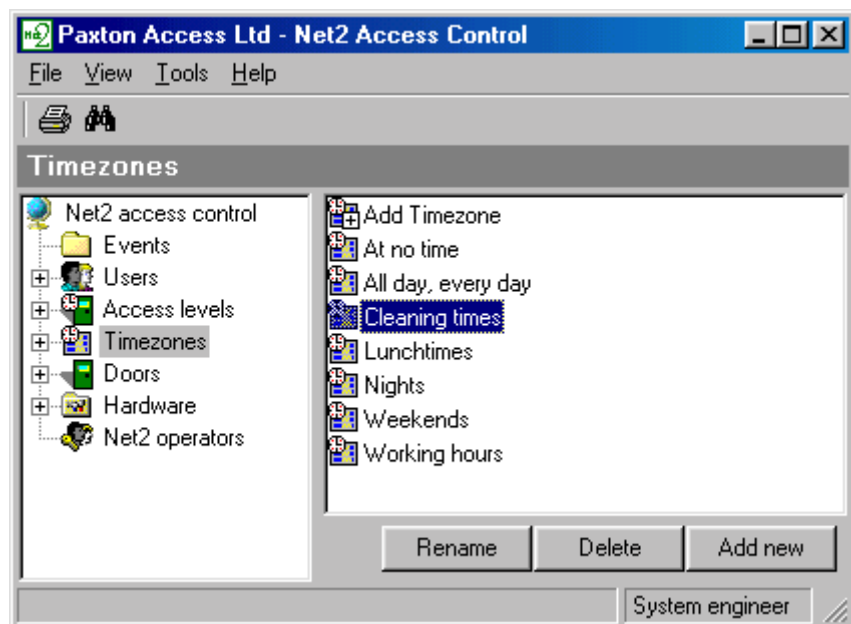

Figure 4.8
1. Select the desired timezone, see figure 4.8.